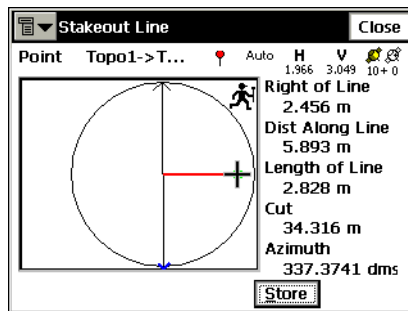

Figure 7-16. Stakeout Line
4. For GPS+: use the information on the *Stakeout Line* screen for finding the target line. Tap **Store** after the point is close enough to the line and at the desired distance from the starting point (Figure 7-16).